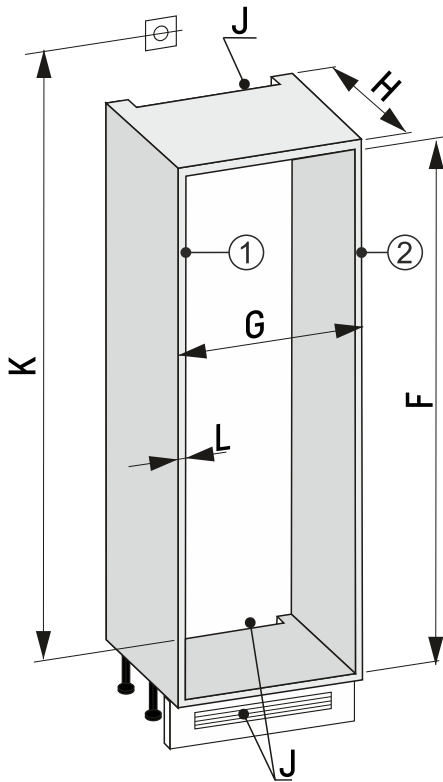

Fig. 83 30" recess
- Measure the filler panel thickness Fig. 83 (L).